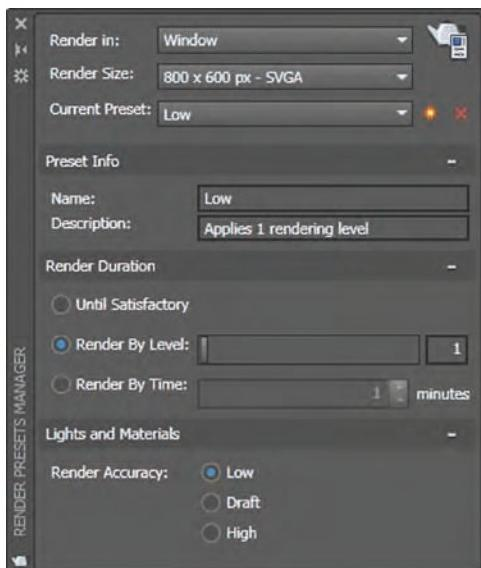

FIGURE 18.14 Render Presets Manager
2. Select the ribbon’s Visualize tab. Click the arrow in the lower right corner of the Render panel or type RPREF and press Enter to open the Render Presets Manager. You will begin by making a preview render in the cloud. Select Low from the Current Preset menu (see Figure 18.14).